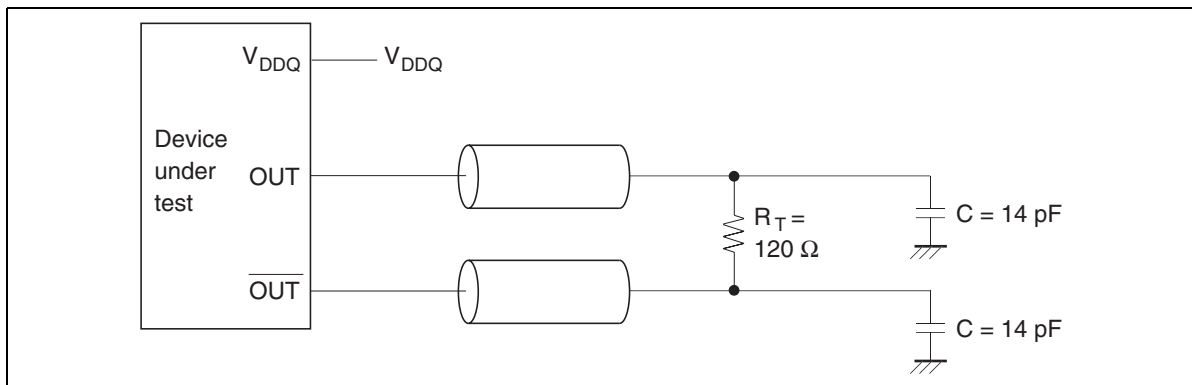

Figure 2 Differential signal using direct termination resistor
3. All outputs are loaded as shown in Figure2.
Differential clock outputs are directly terminated by a 120 Ω resistor. Figure 2 is typical usage conditions of outputs load.